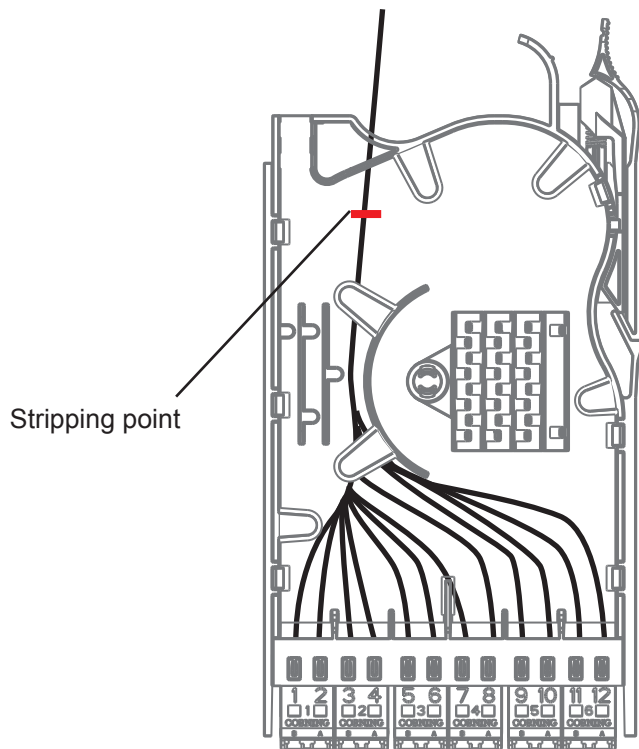

Figure 9
5.3.2 Route pigtails as shown in Figure 9